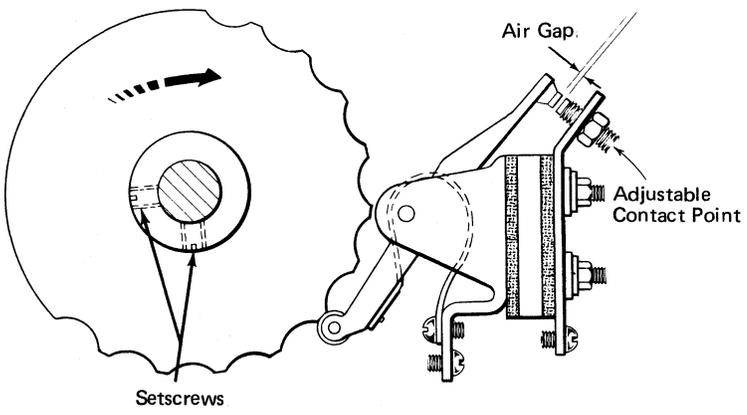

Figure 3-3. Rocker Arm Circuit Breaker—Open Position
the cam, set the contact air gap with the adjustable contact point as specified on the electrical timing chart for the machine (Figure 3-3).
4. Loosen the setscrews in the circuit breaker cam and turn the cam to obtain the proper timing as specified on the electrical timing chart for the machine (Figure 3-3). Use a dynamic timer whenever possible to check the timing of the circuit breaker contacts. Be sure to tighten the setscrews if they have been loosened.